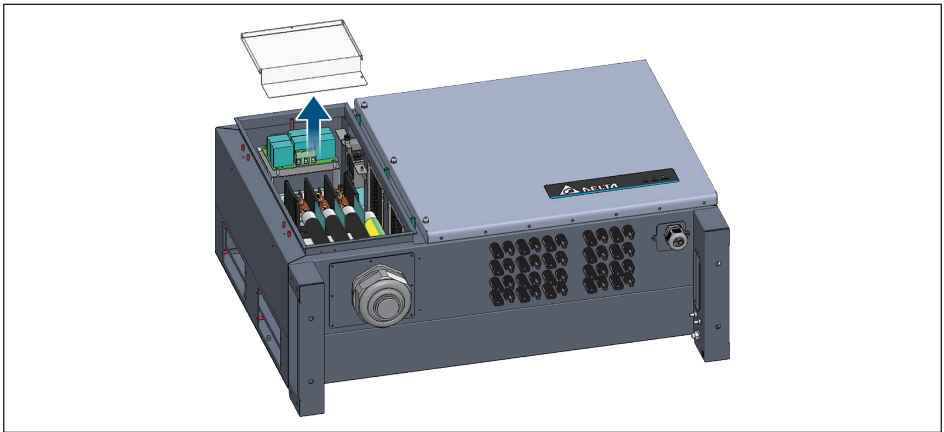

Figure 5-20: Remove the internal fan 2 shield cover
(See **Figure 5-20, 5-21, 5-22, 5-23**)
- (1) Remove the shield cover. (shown in **Figure 5-20**)